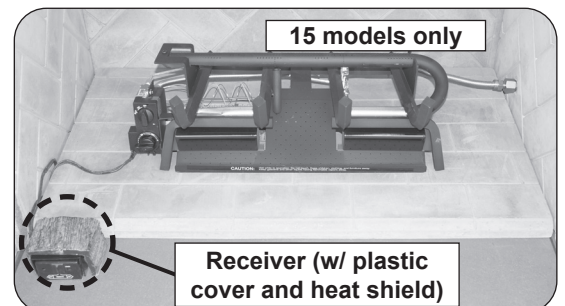

Fig. 17-4 Place remote receiver
3. **Place the remote receiver at the front left corner of the fireplace.** Place as far from the burner system as possible. See Fig. 17-4.
4. Place the plastic cover over the remote receiver with the open side facing forward to allow access to the receiver controls. Then place the decorative heat shield. See Fig. 17-4.